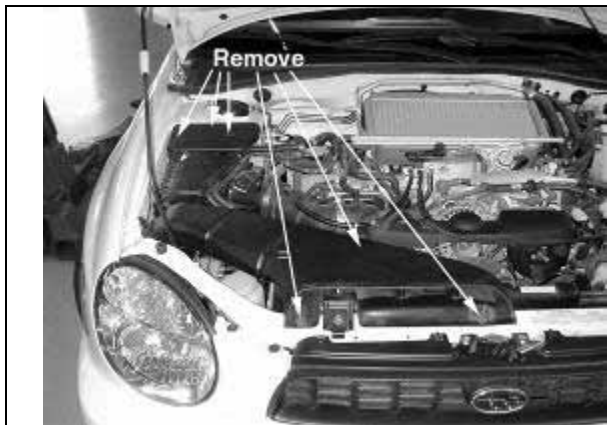

Fig. 1
- b. Remove the two mounting bolts securing the air inlet scoop; remove the air inlet scoop from the vehicle. (Fig.1)